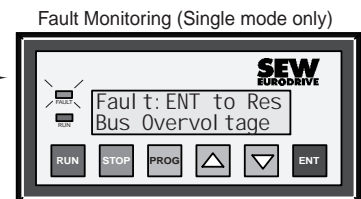

Fig 1.5 MKP 11A Operation
7. Program the keypad parameters as necessary using the instructions in Figure 1.4 and Figure 1.5.
8. Operate the drive as shown in Figure 1.5.